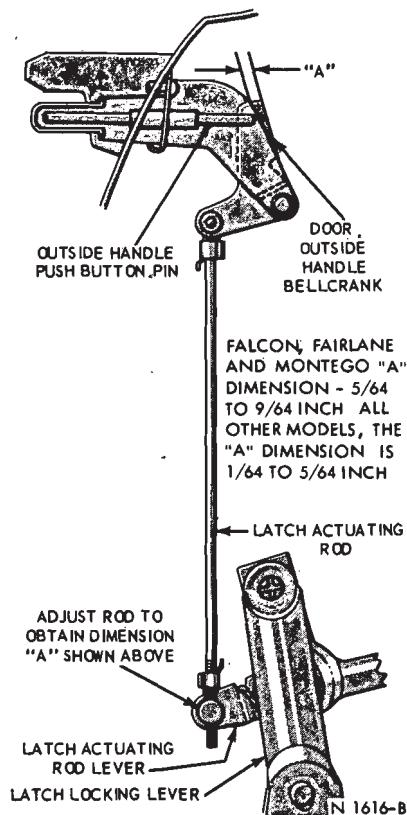

FIG. 2—Front Door Latch Actuating Rod Adjustment
2. Disconnect the latch actuating rod from the latch actuating rod lever (Fig. 2).
3. Adjust the length of the rod, as required, to obtain the dimension shown in Fig. 2 at point A.